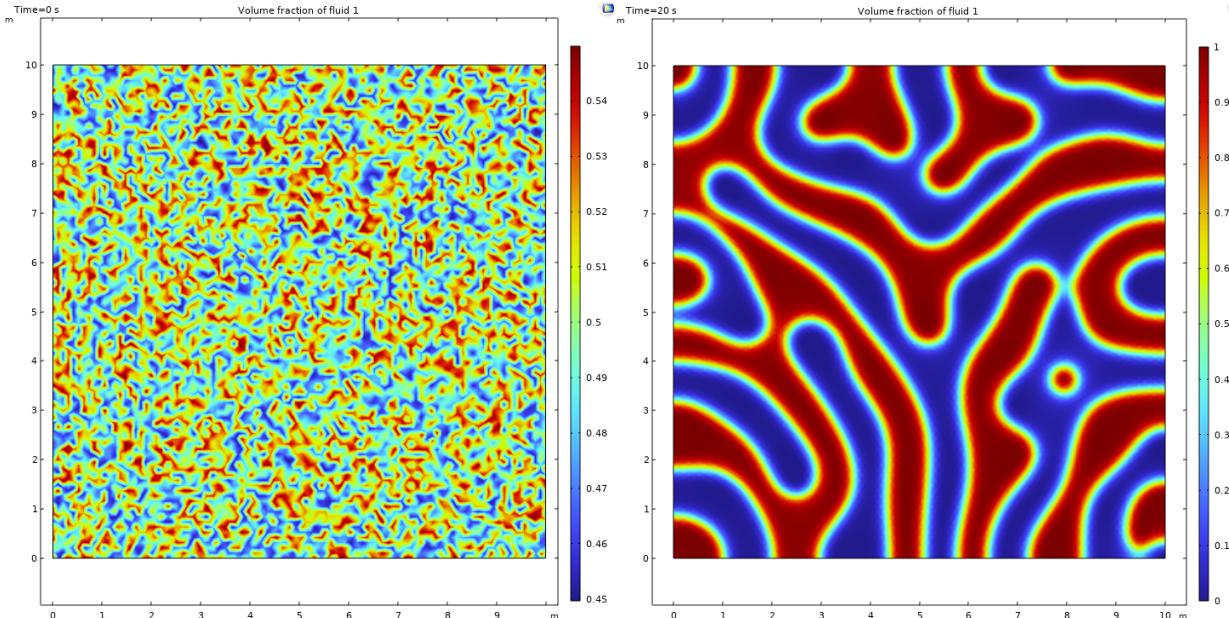

Figure 4. Expected unit test output, Q3. **Left:** Volume fraction for fluid 1, $t = 0$ seconds. **Right:** Volume fraction for fluid 1 at $t=20$ seconds.
- Plot the V_{f1} , the volume fraction of fluid 1. Your result should look similar to the following plots in Figure 4.